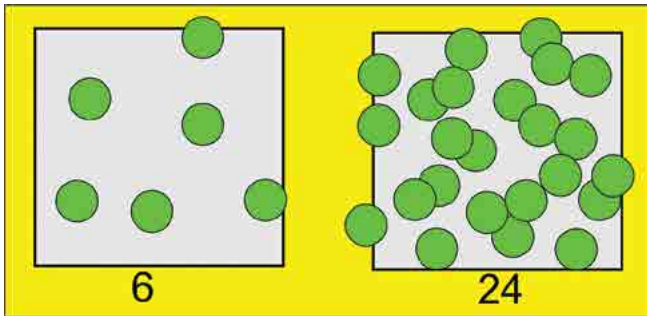

Fig. 5. Model of low and medium dent coverage.
**A9:** “That is probably the biggest, most complicated, question that can be asked about shot peening. Essentially, the number of dents required depends on both the size of the component and on the average size of the dents. We use a term called “coverage” that accommodates both of these variables. Fig.5 models what we are looking for. Six dents centered in the unit square would correspond to a low coverage. Twenty-four identical dents would give medium coverage.
Next, we have to consider what percentage coverage is the most effective. We also have to ensure that we can measure coverage with reasonable accuracy. Coverage does not increase linearly with peening time. That is because the dents start to overlap more and more with increased peening. Overlapping is shown for the twenty-four dents in fig.5. The